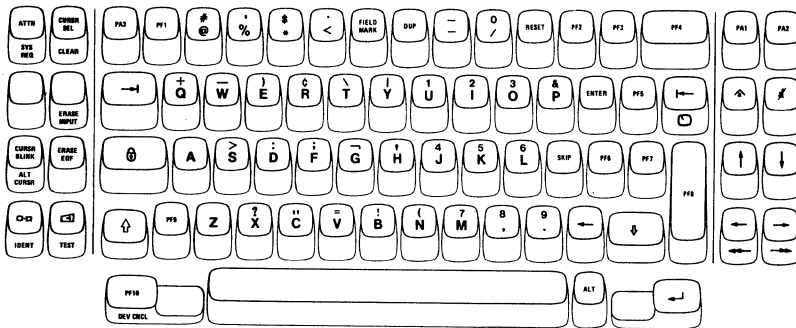

Figure 5-6. 3276 Data Entry Keypunch Layout Keyboard.
- The Data Entry Keypunch Layout keyboard (Figure 5-6), which is similar to the 3275 and 3277 Data Entry Keypunch Layout keyboard.